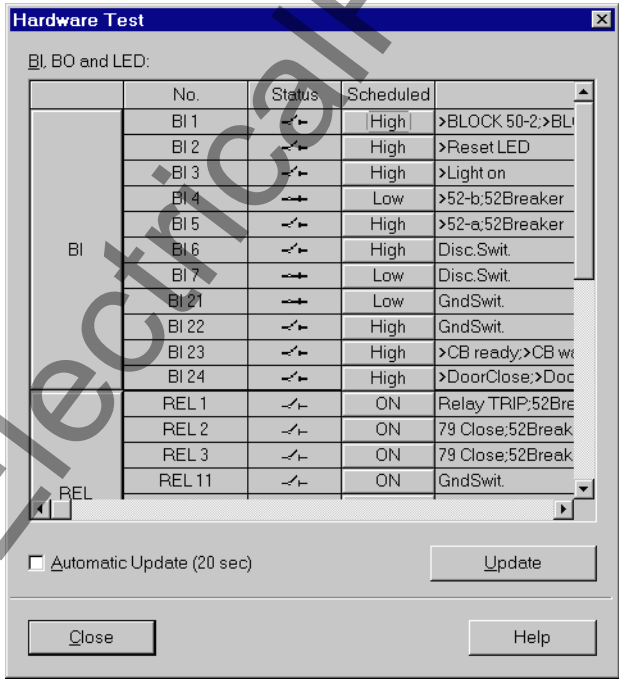

Figure 3-22 Dialogue box for hardware test — example
- ❑ Double-click in the list view on **Hardware Test**. The dialogue box of the same name opens (see Figure 3-22).